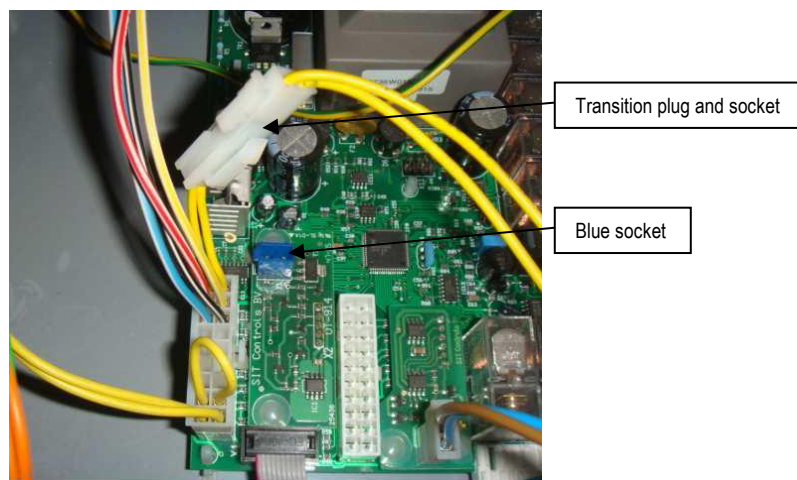

FIGURE 11.2 RCW WIRING MODIFICATIONS
4. Trace the yellow wires from the "Remote Control" terminals (pin 5 & 6) of the connection strip to the transition plug and socket (see **Figure 11.2**).
5. Disconnect the transition plug and socket and fit the plug to the blue socket on the burner control PCB (see **Figure 11.2**).